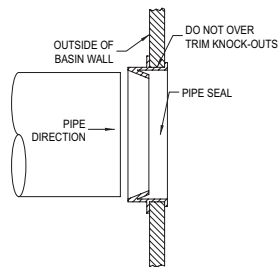
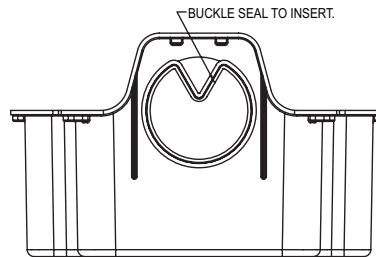

Figure 2.2
Figure 2.3
- 1.3) Trim and clean the diameter of the hole, leaving it the same as the molded diameter. **DO NOT OVER TRIM DIAMETER.** Refer to Figure 2.2
- 2.2) Place pipe seals in necessary holes as shown in Figure 2.2 & Figure 2.3.